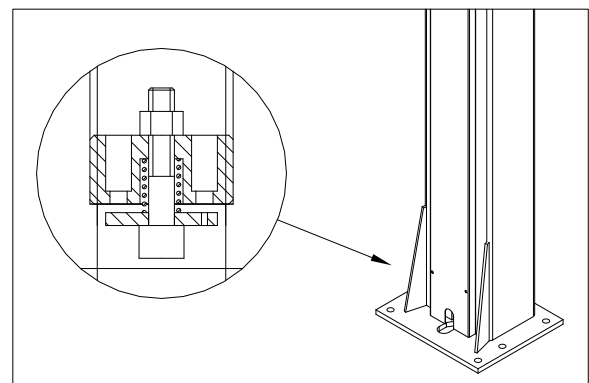

Fig. 13
- ◆ In case of a sudden, great leakage in the hydraulic circuit (a broken pipe), the blocking valves, at the bottom of each Cylinder, will trip. **(Fig. 13)**